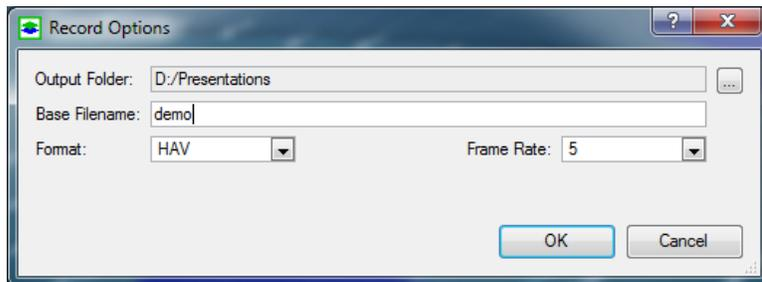

Figure 1.2. The Record Options dialog box
- a) Click the  button to turn on *Recording* feature. When Record is turned on, the Record Options dialog box (Figure 1.2) appears.
- b) Click the  button in Figure 1.2 to select a folder where the video file should be saved, enter the Base Filename, and then select a video format (AVI or HAV) and a desired frame rate (i.e., number of frames per second when the video is played.). AVI is a Microsoft video format that can be played back on most video players. HAV (High quality Audio Video) is a lossless compressed format that can be played back with the free Imagen multimedia player ([www.gromada.com](http://www.gromada.com)).
- c) Click *OK* to create a video file that is ready to store animation sequences. For example, the settings in Figure 1.2) will create a file called *demo.hav* in the *D:/Presentation* folder.